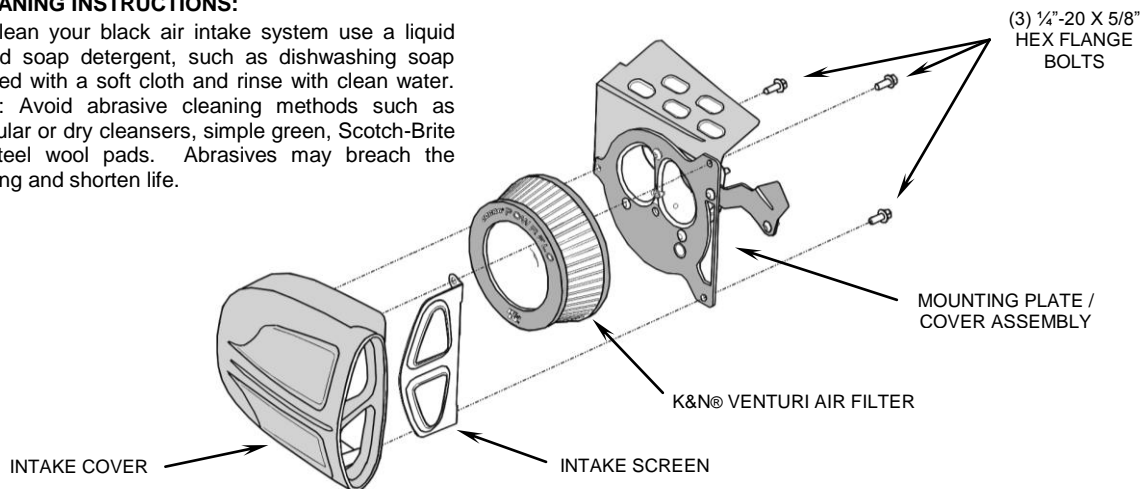

FIGURE 4
10. Insert the intake screen into place so the holes in the bent tabs align with the threaded bosses in the intake cover, see Figure 4 for orientation. Place the supplied K&N® filter into the intake cover.
Place intake cover over the mounting plate and align the mounting holes to the threaded bosses. Insert the (3) supplied 1/4" hex flange bolts and tighten the mounting plate to the intake cover. See Figure 4.